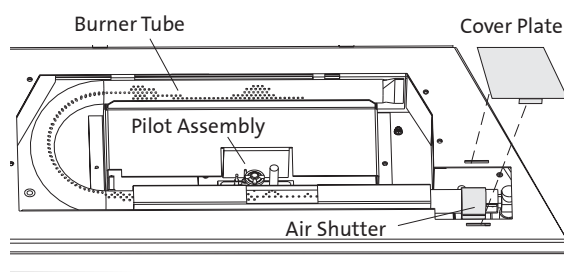

Figure 29. Remove the Orifice Cover Plate and Burner Tube.
- Remove the Orifice Cover Plate. Fig. 29.
- Lift the rear of the Burner Tube and rotate slightly forward. Slide the tube to the left enough to disengage it from the Air Shutter and Burner Orifice, then lift out. Slide the Air Shutter back out of the way to expose the orifice. Fig. 29.